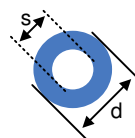

Figure 8-7. Thermal Pad Layout Recommendation
- The thermal pad should be tied to the PCB ground plane with a minimum of 25 vias. See Figure 8-7 for an example.